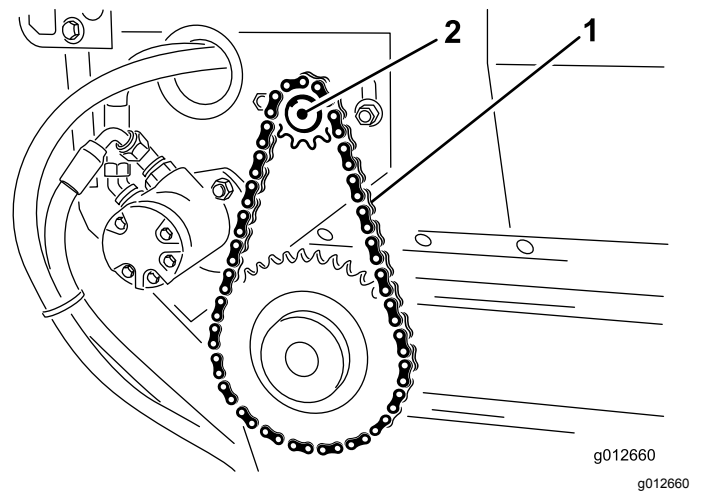

Figure 18
3. Loosen bolts and nuts that secure the motor and sprocket assembly to the main frame (Figure 18).
4. Rotate motor and sprocket assembly (Figure 18) in mounting slots until the conveyor-belt chain deflects 3.2 mm (1/8 inch).
5. Tighten mounting bolts (Figure 18).